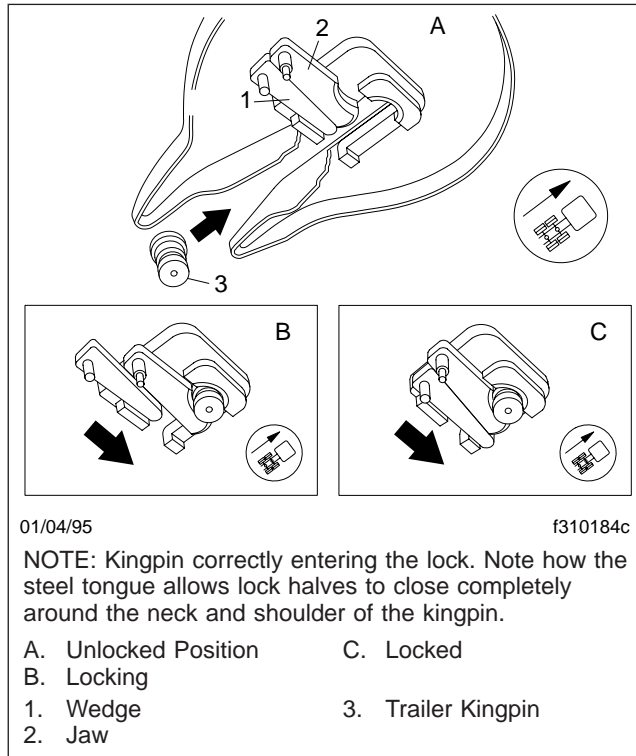

Fig. 8.7, Fontaine Kingpin Lock Mechanism
During coupling (**Fig. 8.7**), the motion of the kingpin entering the jaw will actuate the jaw and wedge. The jaw will move behind the kingpin, followed by the wedge. The purpose of the wedge is to reinforce the jaw and take up slack around the pin. Any wear on the jaw is immediately taken up by the wedge so there is no slack in the connection.
3. Position the tractor so that the fifth wheel lock opening is in line (both vertically and horizontally) with the trailer kingpin. The kingpin should be in a position to enter the throat of the locking mechanism, as shown in **Fig. 8.7**. Adjust the trailer landing gear to give enough alignment height for positive kingpin lockup.